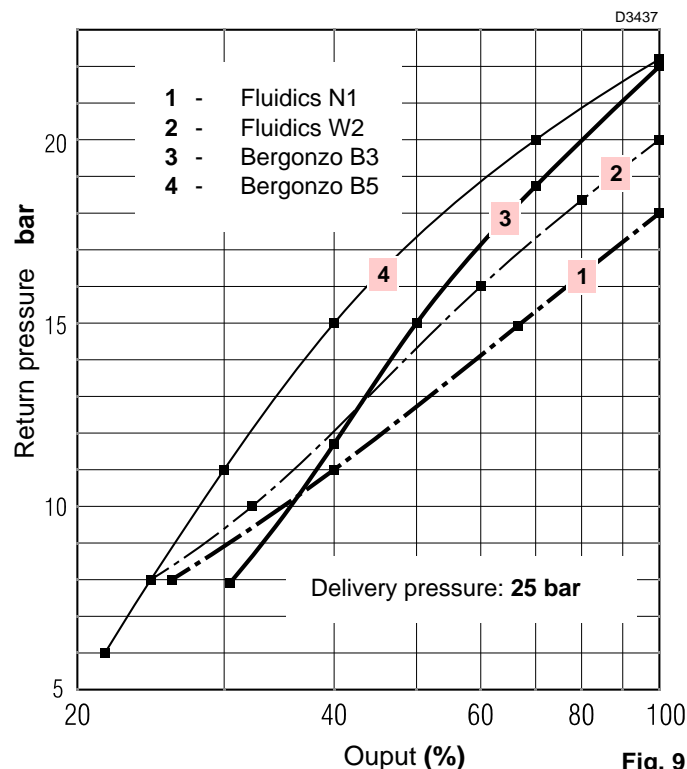

Fig. 9
To set the delivery range within which the nozzle must operate, adjust max. and min. fuel pressure on return from nozzle in relation to the graph (Fig. 9).
**When the adjustment has been made, manually check that there is no knocking between 20° and 130° and that maximum and minimum pressures match pre-selected values as indicated on the graph (Fig. 9 at page 15).**